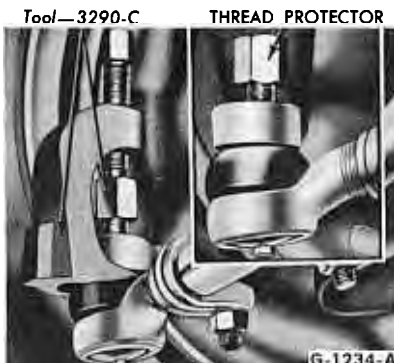

FIG. 16—Disconnecting Steering Linkage Ball Stud—Typical
2. Disconnect the end from the spindle, connecting arm, Pitman arm, or idler arm as shown in Fig. 16.
1. Remove the cotter pins and nuts from the ball studs at the sector shaft arm and the idler arm, and remove the steering arm-to-idler arm rod (Fig. 16).
3. Disconnect the spindle connecting rod ends from the steering arm-to-idler arm rod with Tool-3290-C (Fig. 16).